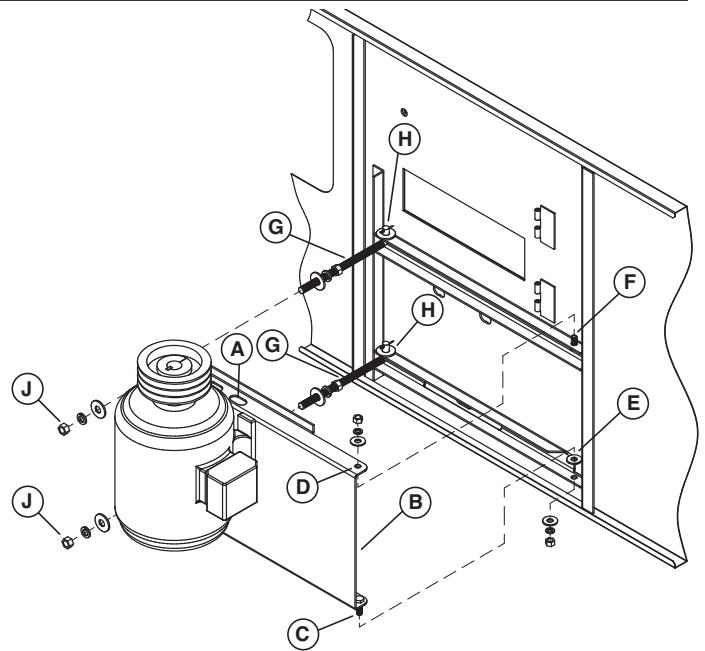

Figure 31 - External Motor Installation
1. Study Figure 31 before installing the motor base on the unit.